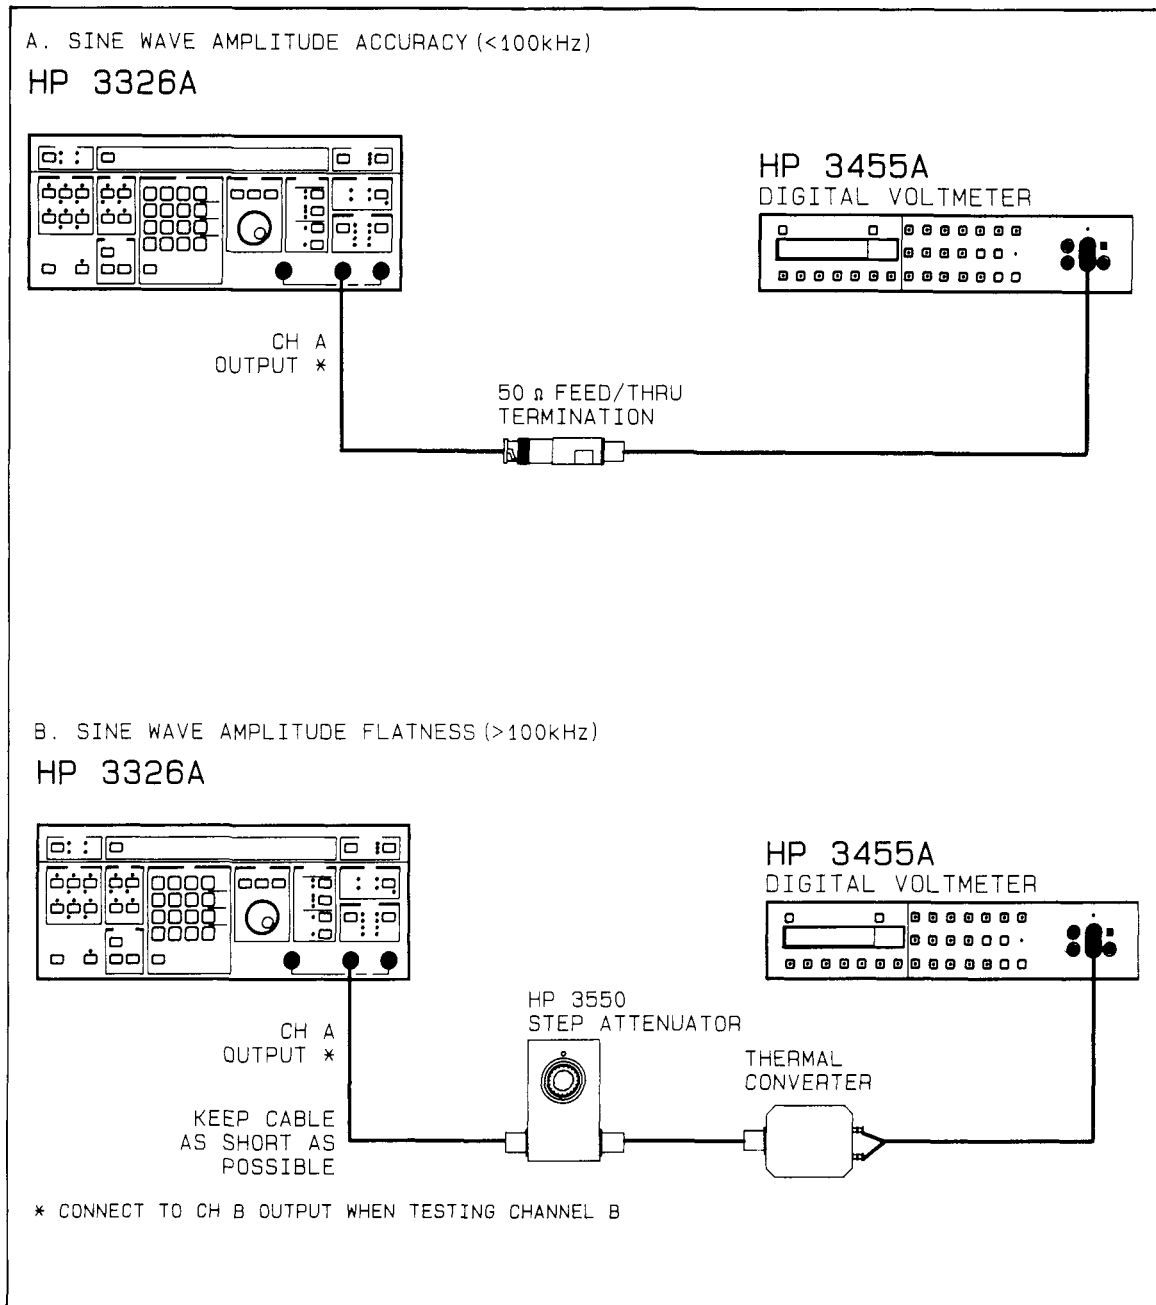

Figure 2-7. Amplitude Accuracy Test
2. Connect the test equipment as follows (illustrated in Figure 2-7(A)):
2. Connect the test equipment as follows (illustrated in Figure 2-7(B)):